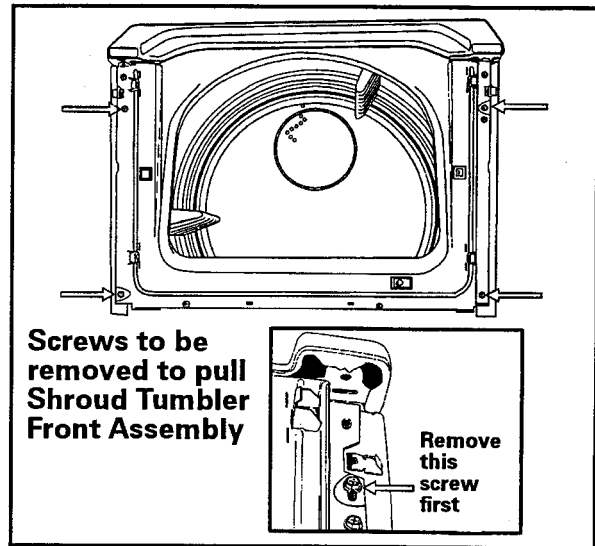

Figure 6-1
5. Remove four outer screws holding shroud and tumbler front assembly to the cabinet. **NOTE: Remove the lowest outside screw at each corner and then the top screw on each side. Leave the two inner screws and the two lower middle screws in place, (See Figure 6-1).**